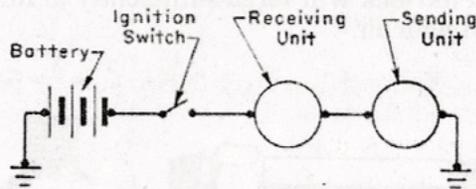

Fig. 16 Electric Oil Pressure Gauge Circuit
a. Electrical Type Fails to Register. An oil pressure gauge of the electrical type (Fig. 16) operates on the same basic principle as an electrical type fuel level gauge which is more fully described in Section I in the March 2012 issue of *SK* under the heading, "Fuel Level, Temperature, and Oil Pressure Gauges."